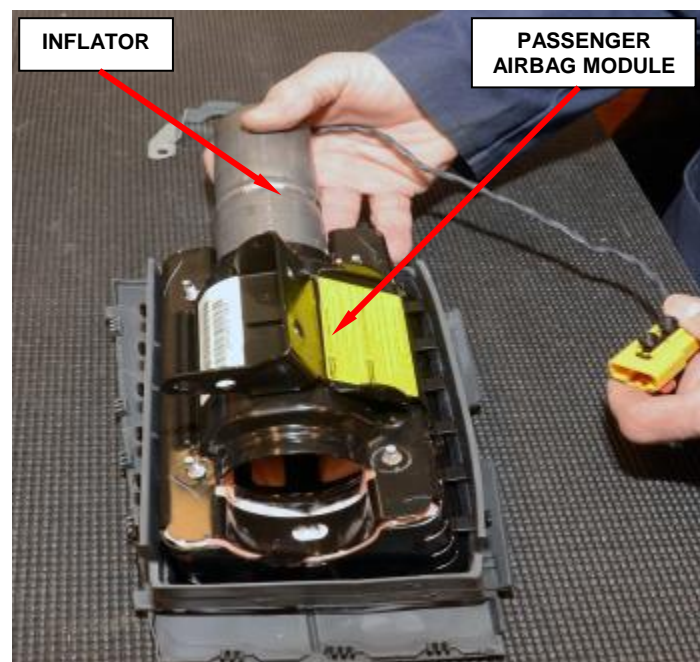

Figure 97 – Inflator Removal
f. Slide the inflator out of the passenger airbag module (Figure 97).